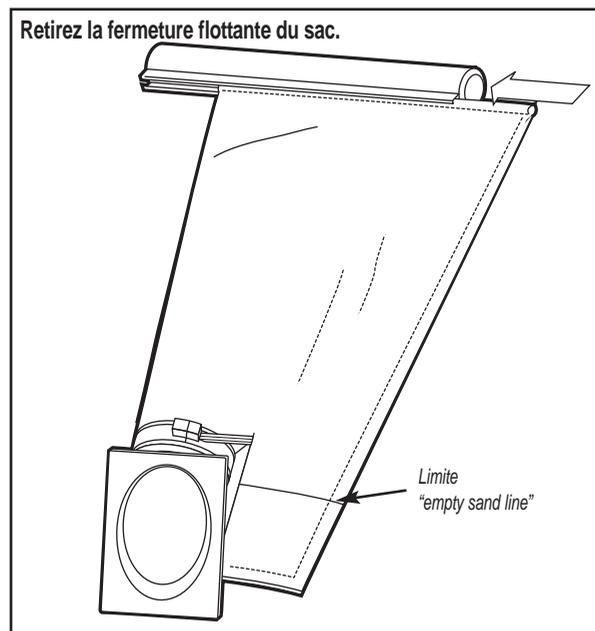

Figure 3A
2. Retirez la fermeture flottante du sac (figure 3A).